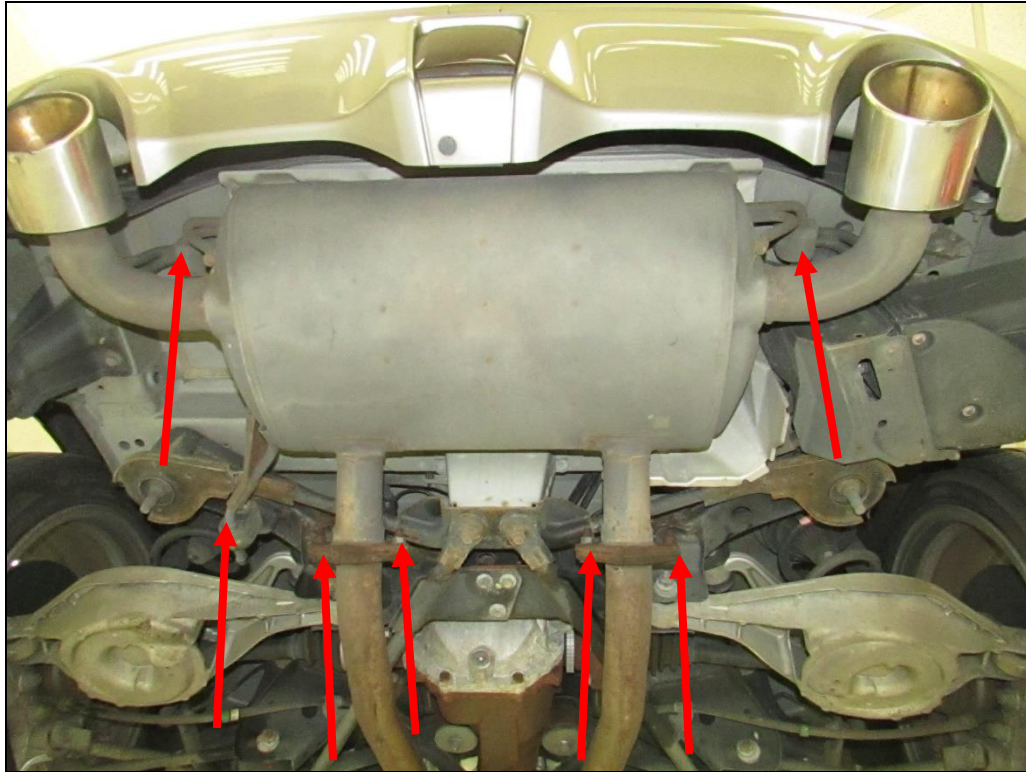

Figure 1
3. Remove (x4) 14mm head nuts at the muffler flange (**Figure 1**).
4. Slide out (x3) hangers out of the rubber isolator (**Figure1**). Now, remove the OE axle-back.